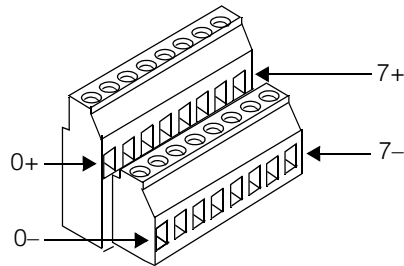

Figure 9. Pin numbering for output terminal block
7. Connect wires from your I/O output devices to the plus and minus terminals of the output block of the external I/O module. Use the pin numbering in Table 9 as a guideline. Figure 9 shows the pin numbering for the output terminal block.